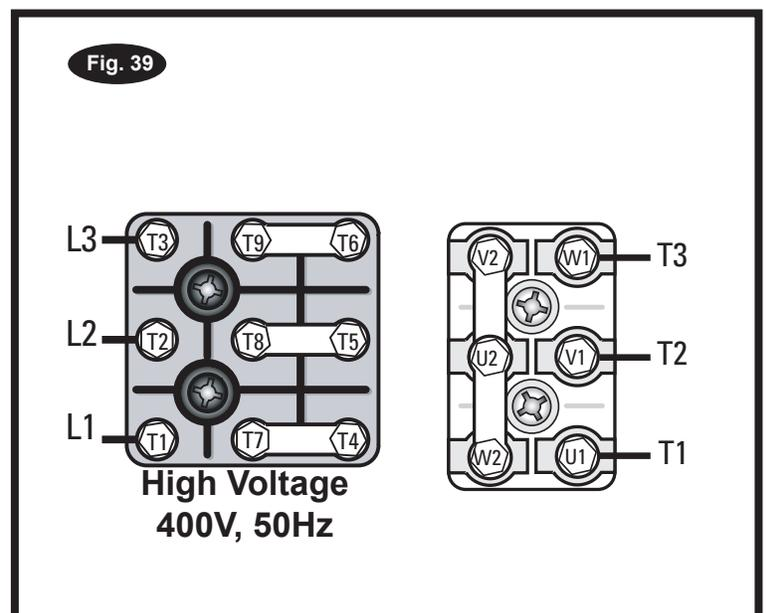

Fig. 40
- Fasten control control base plate using 5 pcs Hex socket screw M8*10 and 4m thickness washer Fig 40,41&42 .